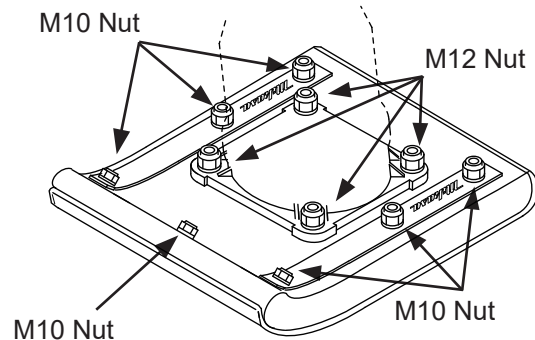

Fig.2
6. Retighten the all nuts for assembling foot (fig.2).